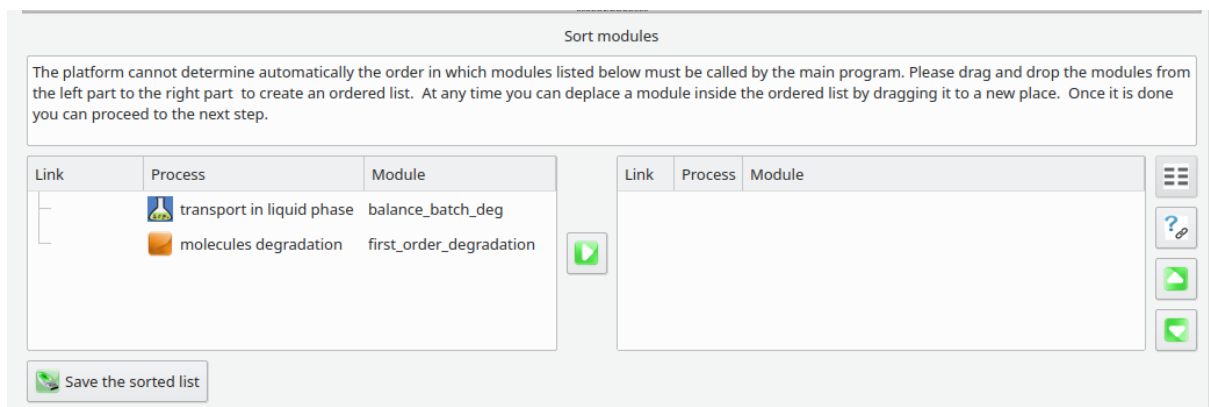

Figure 7: Unordered list of modules
3. In the bottom part of *Ordering* tab (*Sort modules* panel), drag and drop the modules from the left part to the right part of the panel (or use the  button) to create the desired ordered list (see figures 7 and 8):
- In *Sort modules* part of *Ordering* tab in *vsOil-models* application (see figures 7 and 8), it is possible that you cannot move a module in a desired position because the platform detects automatically overlapping iterations loops and forbids them (see the forbidden execution flow in previous item).